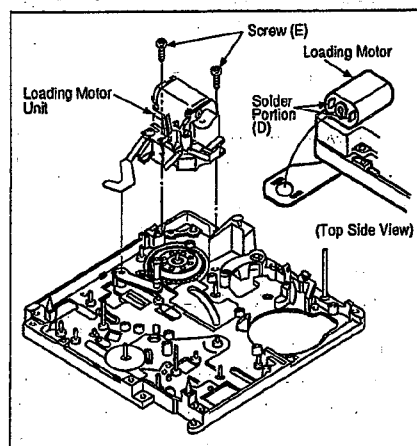

Fig. M5
| 3. Loading Motor Unit             | Fig. M5  | Unsolder the soldered portion (D).Unscrew 2 screws (E) and remove the Loading Motor Unit.  |